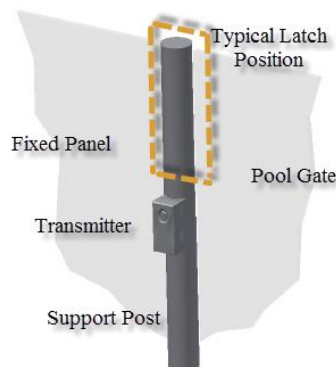

Figure 18
9. Remove the red cover film from the adhesive strip and press the transmitter assembly onto the round post taking care to have the front of the transmitter parallel to the glass panel of the pool gate (figure 18)